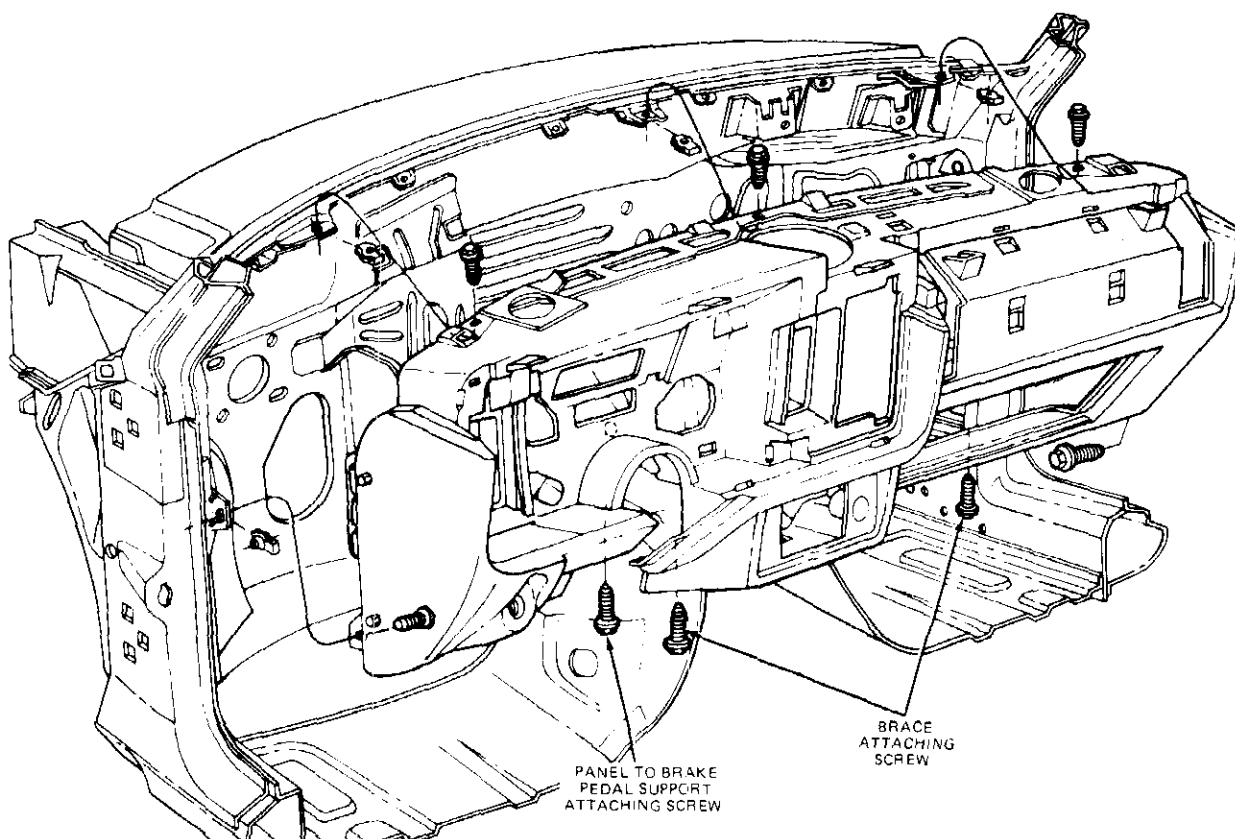

FIG. 37 Instrument Panel Installation
5. Remove one screw attaching the instrument panel to the brake pedal support at the steering column opening (Fig. 37).
11. Support the instrument panel and, with an angle Phillips screwdriver, remove three screws attaching the top of the instrument panel to the cowl (Fig. 37).
3. Place the instrument panel in position and install one screw at each end of the instrument panel (Fig. 37).